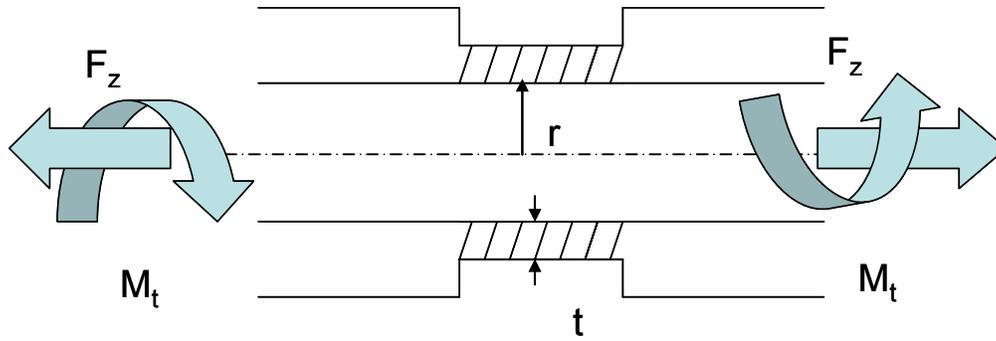

Fig. 2. Torsion tube
2. The notched torsion tube under combined loading is shown in Fig. 2. Find the state of stress in the thin shaded section. Assume the stresses do not vary in that section. Compute the stresses and draw the stress element. Compute the expression for principal stresses. Also if the yield stress is  $Y$  right down the Tresca and VonMises criteria for the given loading. (Hint: assume  $r \gg t$ )